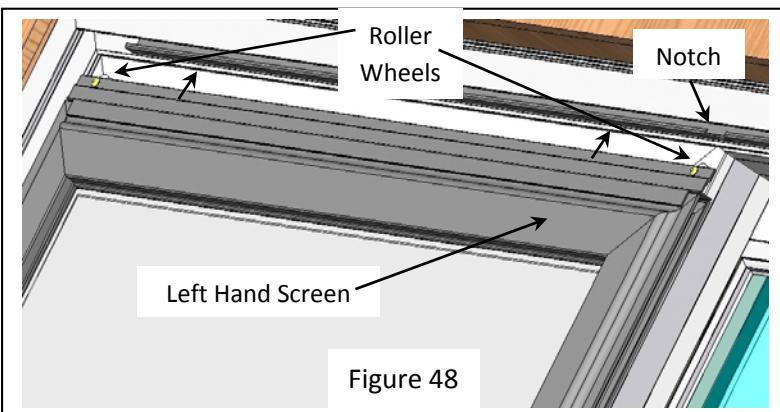
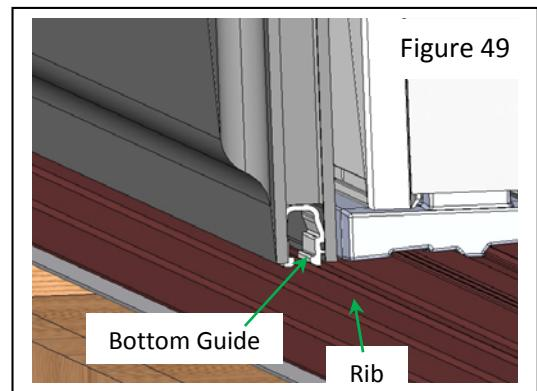

Figure 48
Figure 49
35) Distinguish the right hand screen from the left hand screen. With the roller wheels on the screen at the top and facing inward toward the door panels, note the latch handle location on the screen. Both the right hand and left hand screens should have the handle on the side of the screen toward the center of the door (not at the side jamb). Place the top of the left hand screen up into the screen track, aligning one roller wheel with the notch in the roller track, and the other wheel off the edge of the track as shown (Fig. 48). Lift the screen up onto the track, and swing the bottom in until the guides on the bottom of the screen engage the rib on the fiberglass sill cover as shown (Fig. 49). While moving the screen toward the center of the door, lower it onto the roller track, keeping both bottom guides engaged on the rib. Install the right hand screen at the other side of the door in the same manner.